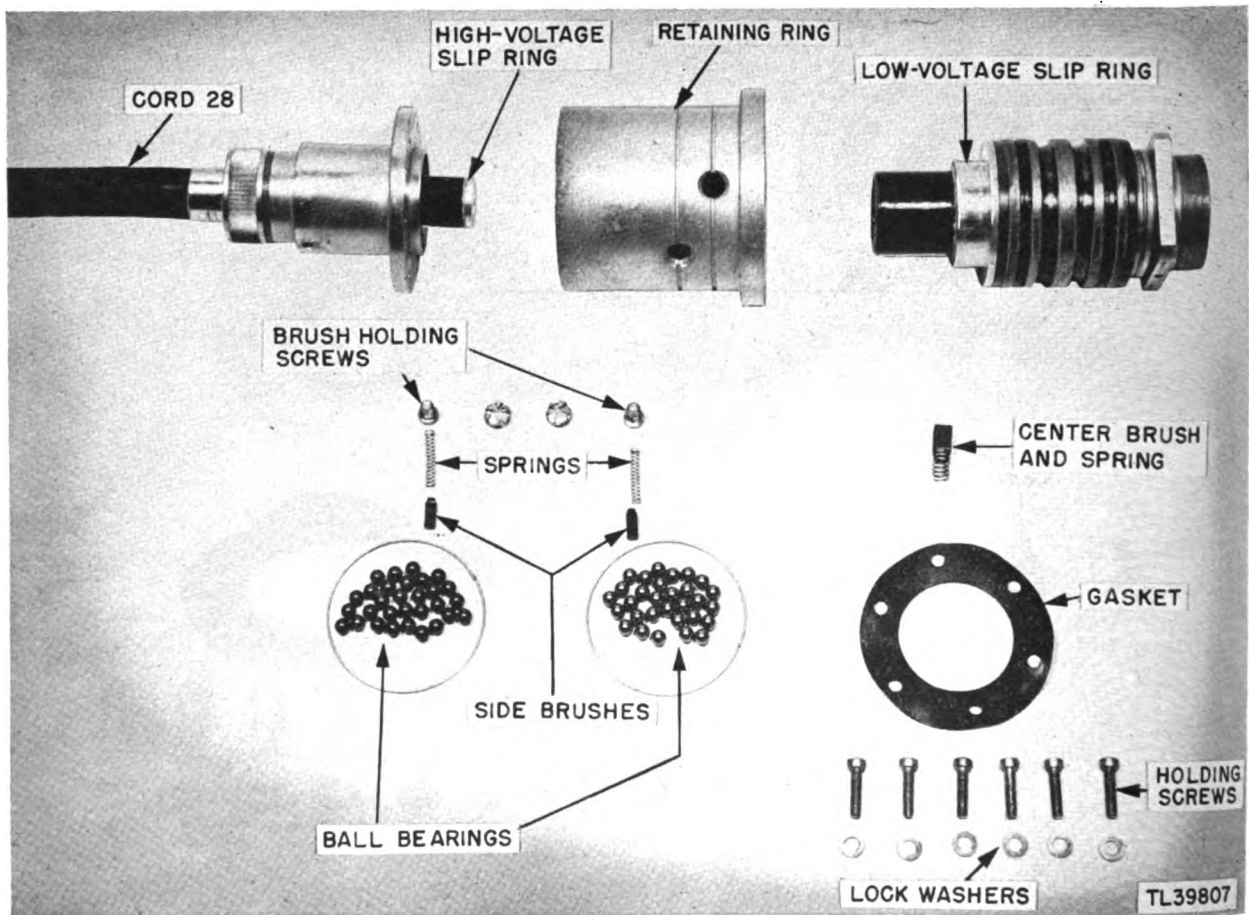

Figure 176. Rotating joint, completely disassembled.
(7) Figure 176 shows rotating joint 1-A-5 completely disassembled.